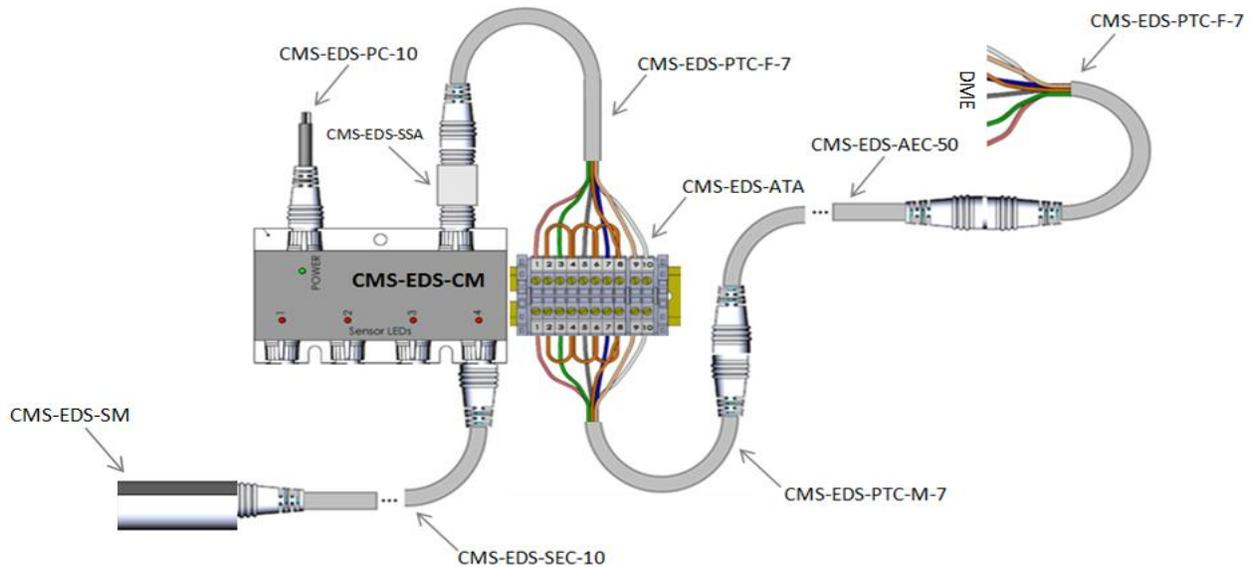
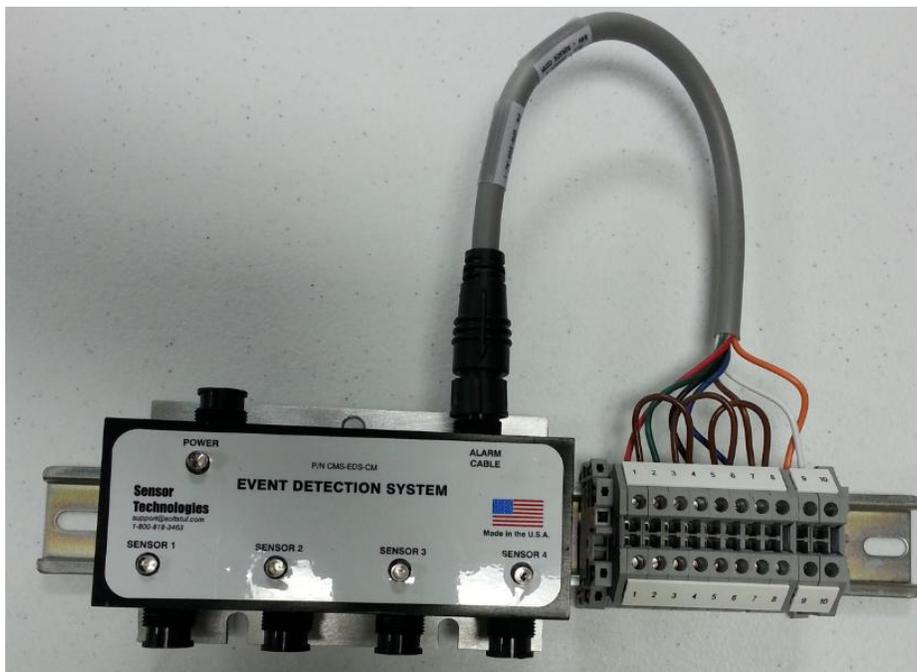

Figure 1: Overall Depiction of System Assembly (with Cables to DME)
Figure 3: Control Module with Terminal Block and Alarm Cable
1) Control Module and Cables: The control module has mounting holes and brackets on the rear plate and is pre-mounted on a din rail as shown in Figure 3. The module is equipped with 6 connectors to simplify installation and maintenance. The connectors connect 4 sensors, 1 power cable, and 1 alarm cable. The power cable is un-terminated at the customer end. The alarm cable is pre-terminated on the terminal block. The system connections are shown in Figures 1 and 2 and the system components are listed in Table 2.